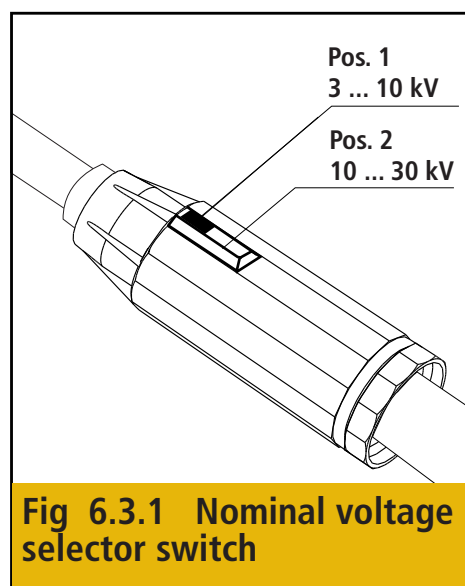

Fig 6.3.1 Nominal voltage selector switch
The nominal voltage selector switch can be switched into two positions to set the voltage detector to the nominal voltage ranges e.g. 3...10 kV or 10...30 kV (see Fig. 6.3.1). The nominal voltage selector switch is designed as a slide switch.
Before verifying safe isolation from supply voltage, a functional test must be performed. This functional test should be conducted with the voltage selector switch set to the lowest voltage range, e.g. in the "3...10 kV" position (see Fig. 6.3.1, page 13). When pressing the "TEST" button (for approximately 3 seconds;) the indicator is switched on and its proper operation is checked (response threshold). When pressing the "TEST" button, the red light flashes and an intermittent acoustic signal sounds. When releasing the "TEST" button, the green light is permanently illuminated.
For installations with a nominal voltage for example of 10 kV safe isolation from supply voltage can be optionally verified in **position 1 (3...10 kV) or position 2 (10...30 kV)** (see Fig. 6.3.1, page 13) of the nominal voltage selector switch. This method can be utilised whenever the nominal voltage is at the upper limit of position 1 or the lower limit of position 2.
The test electrode (E) (see Figs. 1 to 3, pages 5 to 7) of voltage detector can now be moved closer to the part of the installation to be tested. The relevant voltage / operating state of the part of the installation to be tested is now visually and (acoustically) indicated via the indication signals (see Fig. and Table 6.3.2). The voltage test may only be performed as long as the green light is permanently illuminated, that is the voltage is ready for testing. As soon as the voltage detector is **no longer operational** (see 6.3.2), it is switched off automatically. If further tests are to be carried out, press the "TEST" button again to perform a functional test. For this purpose, the nominal voltage selector switch must be set to the lower voltage range, i.e. position 1 (see Fig. 6.3.1, page 13).